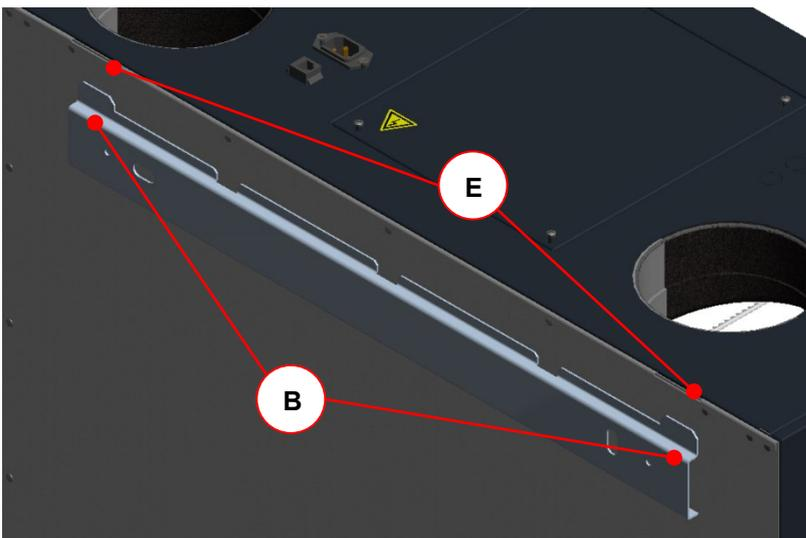

Fig. 19: Hooking the unit into the fastening sheet
6. Place the FOCUS unit on the floor stand so that the lugs of the fastening sheet hook into the slots in the lock seam at the bottom of the unit's rear cover. See Fig. 19.